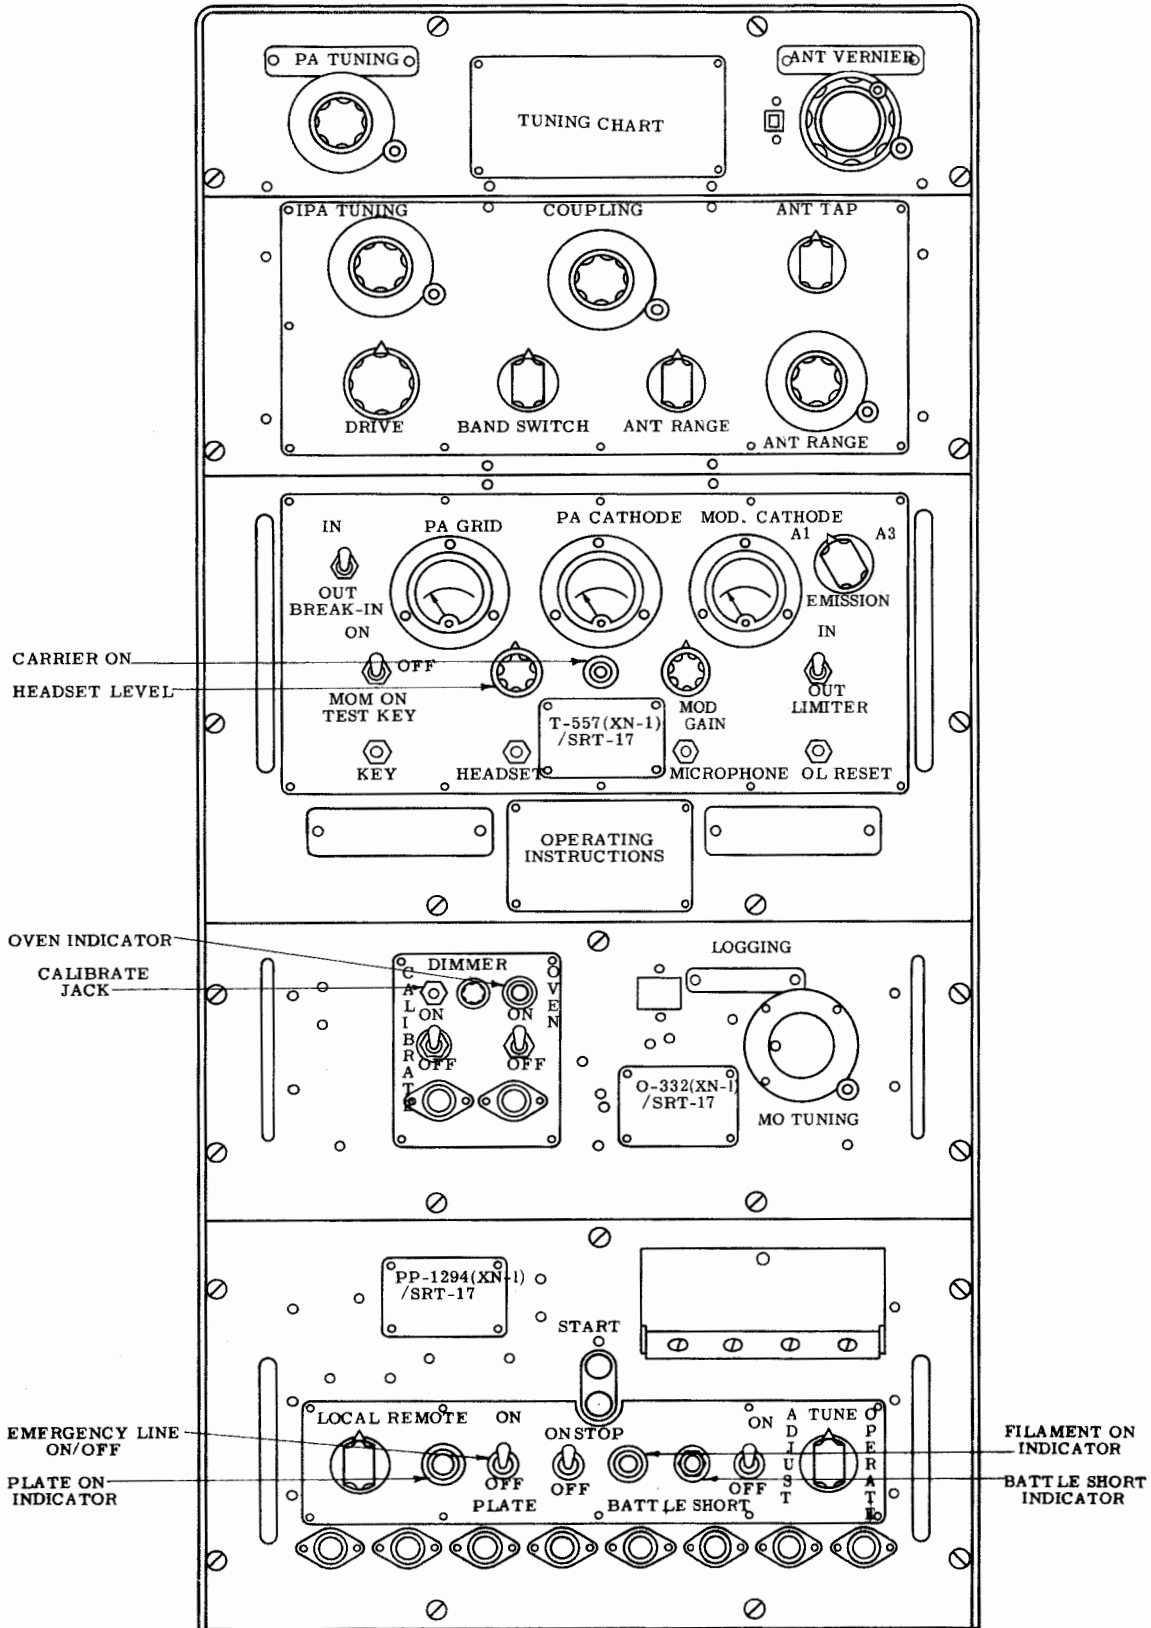

Figure 4-1. Location of Controls on AN/SRT-17(XN-1)
a. Table 4-3 gives the location and function of each of the operating controls and indicators. These have been divided into groups corresponding to the approximate location and general control function. The six dial controls; I. P.A. TUNING, P.A. TUNING, COUPLING, ANTENNA VERNIER, ANTENNA TUNING, and R. F. OSCILLATOR TUNING are equipped with dial locks. Once the transmitter has been tuned these dials should be locked in position. All of the switches, controls and indicators referred to in the following operating procedure are located on the front panel of the equipment. Refer to figure 4-1.